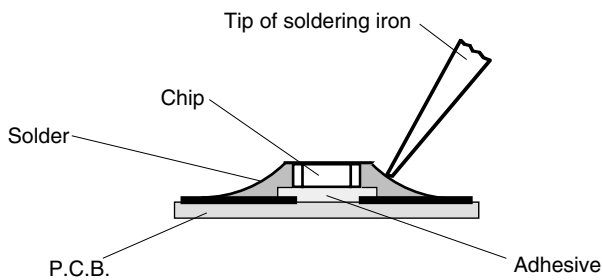

Fig. 1
1. step: Clean the CHIP soldering point with a solder wick (Fig. 1).